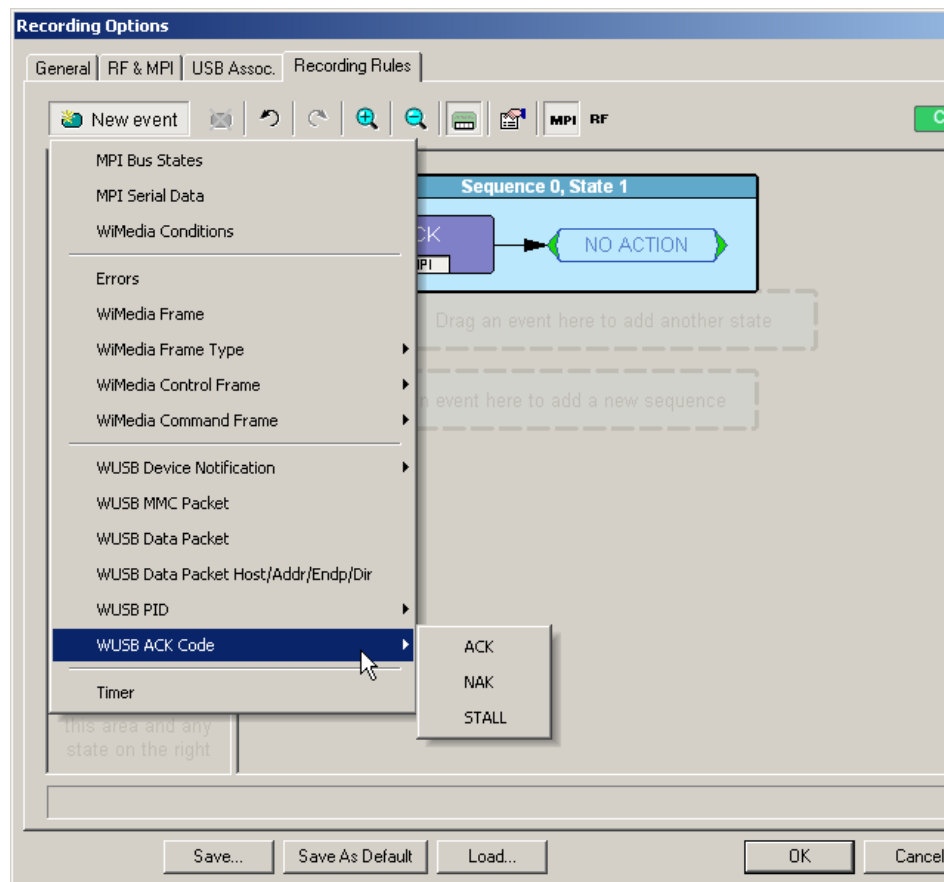

Figure 12.27 Example 1: Creating the Event
Step 1 Click the **New Event** button. From the drop-down menu, select **WUSB ACK Code > ACK** (Figure 12.27).